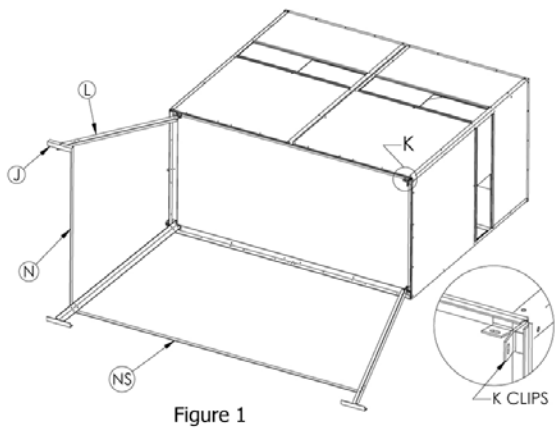

Figure 1
1. Remove the (K) clips from this package and assemble the blind, being sure to install these clips according to the blind instructions. (Fig. 1)
4. Attach the (L) Legs to (K) K-Clips using (N) Horizontal Bracing as necessary for support. (Fig. 1)